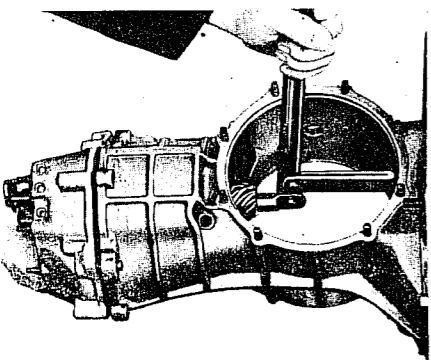

Fig. E.14. Pressing out the gear train and gear carrier. (A wooden block and levers can be used instead of the tool shown.)
7. Push the gear train out of the case so that it comes away in the gear carrier section (Fig. E 14).